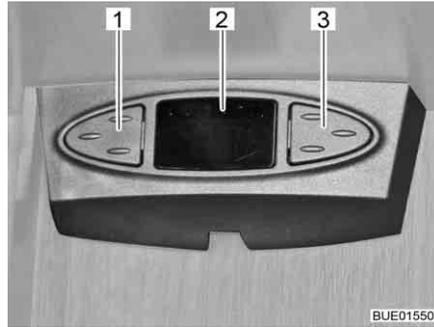

Fig. 50 Satellite mouse
Depending on the model, the satellite receiver is equipped with a satellite mouse. The satellite mouse's display (Fig. 50,2) shows the current channel. The two buttons can be used to operate the basic functions of the satellite unit (changing channel, switching on/off).
- Choosing the previous channel from the list: Press left button (Fig. 50,1).
- Choosing the next channel from the list: Press right button (Fig. 50,3).
- Switching between radio and TV: Press the buttons (Fig. 50,1 and Fig. 50,3) briefly at the same time.
- Switching the receiver on/off: Press and hold the buttons (Fig. 50,1 and Fig. 50,3) at the same time.